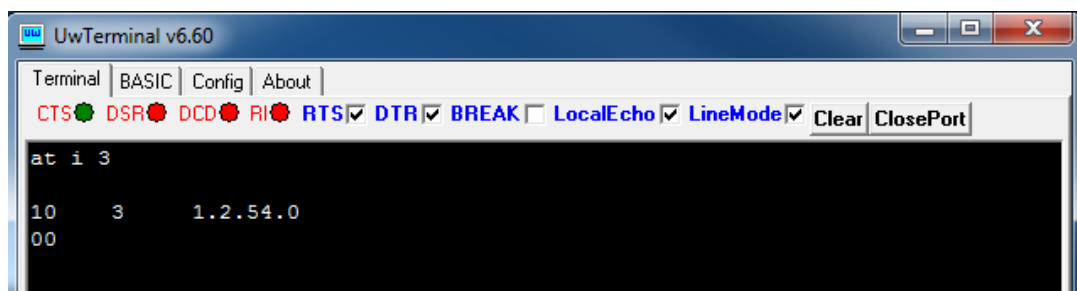

Figure 12: Issuing AT+I3 to check firmware version
5. Send the string **AT+I3** as shown in Figure 12: